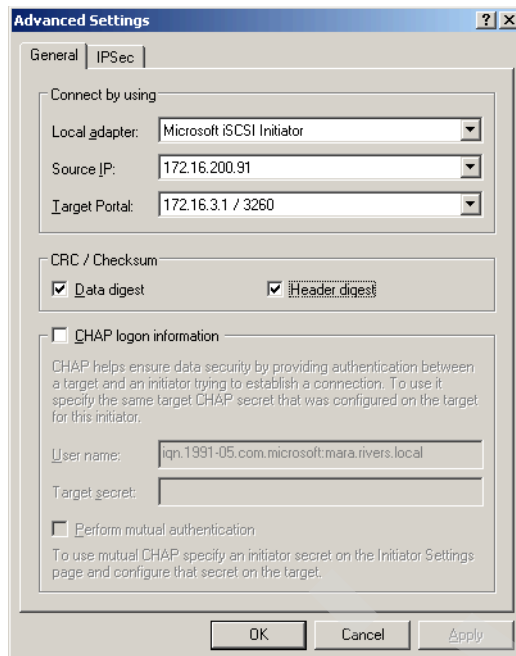

Figure 23-30 Advanced settings - finally settings
5. In Figure 23-30, check **Data digest** and **Header digest** and click **OK**.